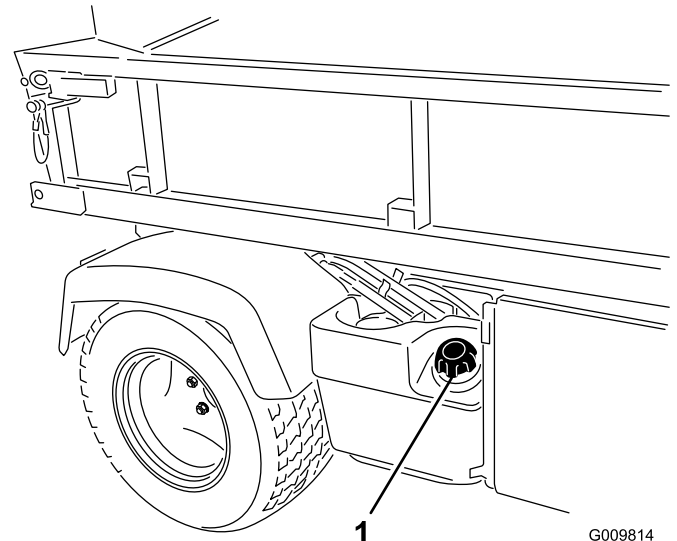

Figure 18
2. Remove the fuel tank cap (Figure 18).